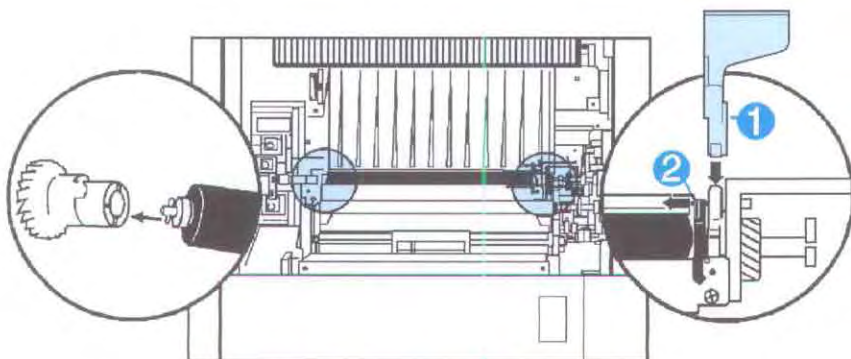

Figure 4-5. Removing the Transfer Roller
4. Remove the plastic retaining clip (callout 1 in Figure 4-5), by pulling up on its rear-most edge.
5. Hold the Transfer Roller in place (with a gloved hand) and slide the bushing (callout 2 in Figure 4-5), to the right so that it separates from the Roller's Shaft. *For replacement, observe how the location pin fits into the slot of the Left Drive Gear.*